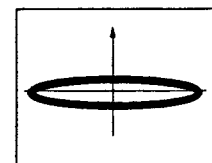

Fig. 9
4. Fine-adjust the grating so that the Y-axis amplitude of the Lissajous figure is minimized. (Fig. 9)
9. Re-open the TRKG servo and observe the Lissajous figure to check that the Y-axis amplitude is minimum. (Fig. 9)